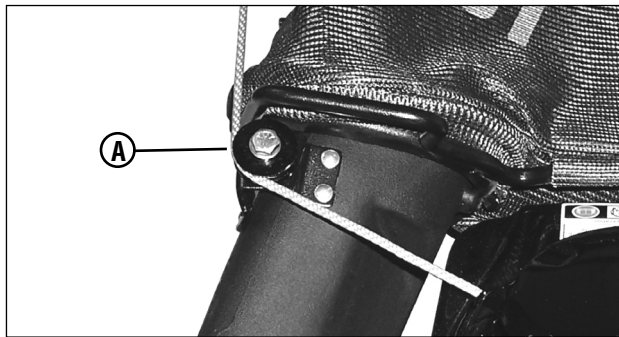

Figure 12: Rope guide pulley
4. Route the recoil rope around the outside of the rope guide pulley (A, Figure 12).